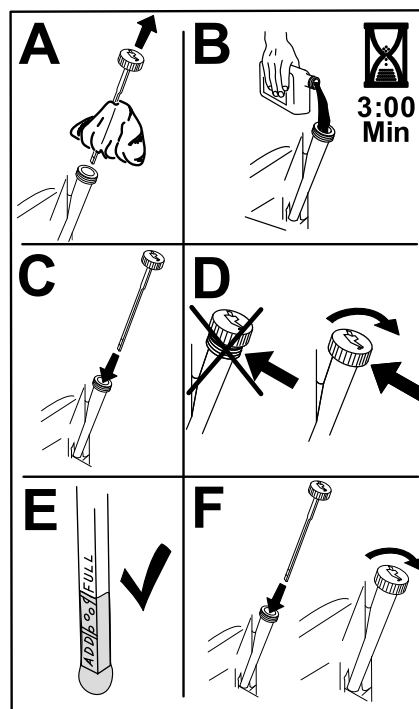

Figure 49
- Slowly pour approximately 80% of the specified oil into the filler tube and slowly add the additional oil to bring it to the Full mark (Figure 49).